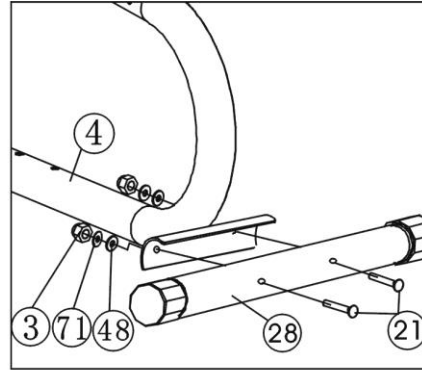

Figure 2
Attach the Rear stabilizer (28) to the Seat cushion adjustor tubinh (4) with two Bolts (21), Flat washers (48)Spring washers (71)and Cap nuts (3). (See figure 2)